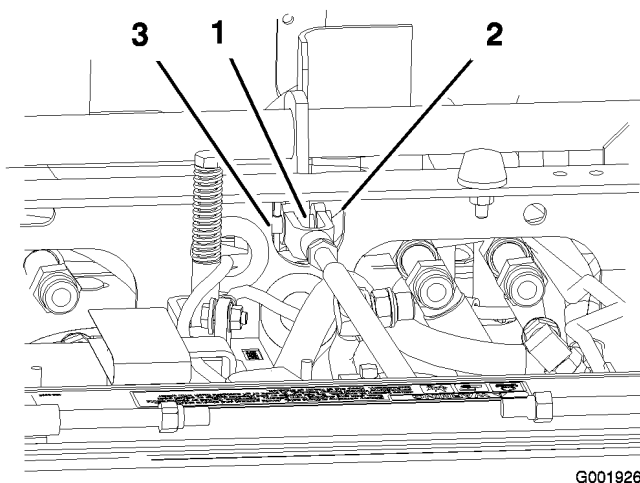

Figure 46
3. Measure the distance vertically between the front of the brake bar and the crown of the tire; the measurement should be 7/8 inch to 1 inch (22 to 25 mm) (Figure 46).
6. Adjust the yoke clockwise to shorten the distance; counterclockwise to lengthen distance (Figure 46).